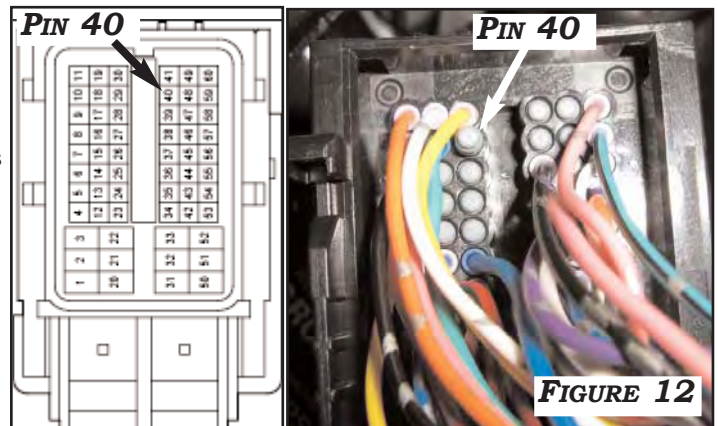

FIGURE 12
2. LOCATE PIN **40**, IN WHICH IF PRE-WIRED WOULD BE A **BLUE/BLACK WIRE**. IF WIRE IS PRESENT, CHECK CRUISE SWITCH OPERATION. IF WIRE IS NOT PRESENT, REMOVE THE RUBBER SEAL IN PIN **40**, WHICH IS BELOW THE YELLOW WIRE AS SHOWN IN **FIGURE 12**. **BE SURE TO SLIDE OUT THE WHITE TERMINAL RETAINER AT THE CENTER OF CONNECTOR WITH A SMALL POINTED TOOL AS SHOWN IN FIGURES 13-14.**